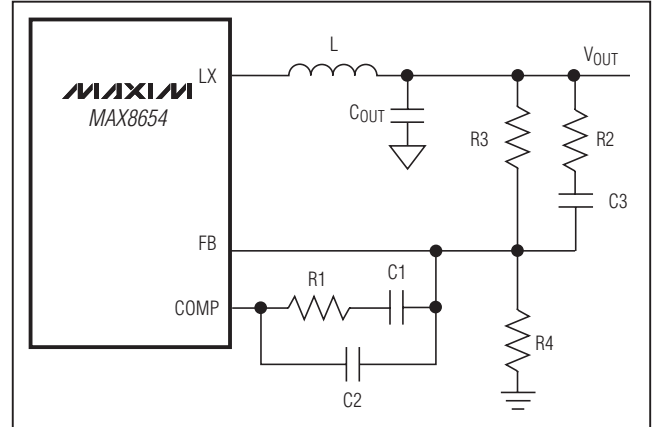

Figure 3. Type 3 Compensation Network
The high-switching frequency range of the MAX8654 allows the use of ceramic-output capacitors. Since the ESR of ceramic capacitors is typically very low, the frequency of the associated transfer function zero is higher than the unity-gain crossover frequency,  $f_C$ , and the zero cannot be used to compensate for the double pole created by the output filtering inductor and capacitor. The double pole produces a gain drop of 40dB and a phase shift of 180° per decade. The error amplifier must compensate for this gain drop and phase shift to achieve a stable high-bandwidth, closed-loop system. Therefore, use type 3 compensation as shown in Figure 3. Type 3 compensation possesses three poles and two zeros with the first pole,  $f_{P1\_EA}$ , located at zero frequency (DC). Locations of other poles and zeros of the type 3 compensation are given by:
Begin by setting the desired output voltage. The output voltage is set using a resistor-divider from the output to GND with FB at the center tap (R3 and R4 in Figure 3). Calculate R4 as: